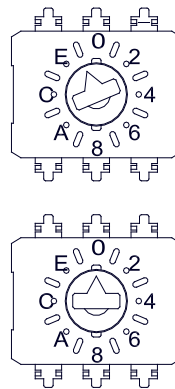

Figure 25 Model 100 Terminal Board Rotary Switches
3. Ensure that the two rotary switches on the Model 100 Terminal Board are set to the Modbus™ address (F0h) for the wireless radio module of the X40 controller. The Model 100 Terminal Board should come set from the Teledyne Detcon factory and should be set to the address to F0h. Access the terminal board and locate the switches shown in Figure 25. The MSD (most significant digit) "F" is represented by the top rotary switch (closest to the J1 connector) and the LSD (least significant digit) "0" is represented by the bottom rotary switch (closest to the J2 connector).